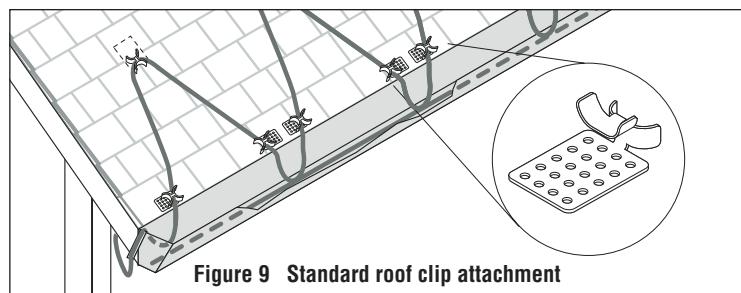
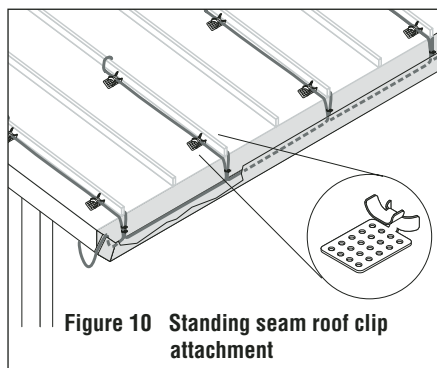

Figure 9 Standard roof clip attachment
Figure 10 Standing seam roof clip attachment
- Roof clips may be attached to a shake or shingle roof with nails or screws as shown in Figure 9. Roof clips may be attached to a metal roof using screw, nail or adhesive as shown in Figure 10. (See H56723 installation instruction for more details.) Reseal the nail or screw holes if necessary before installing heating cable in the clips.